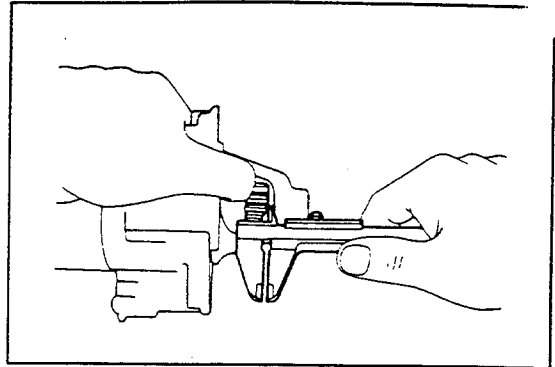

Fig. 10-40
- (1) Connect the field coil lead to the terminal C. Make sure that the lead is not grounded.
- (2) Connect the battery and ammeter to the starter as shown in Fig. 10-40.
- (3) Ensure that the starter rotates smoothly and steadily with the pinion moving out.
- (4) Ensure that the ammeter registers the specified current.